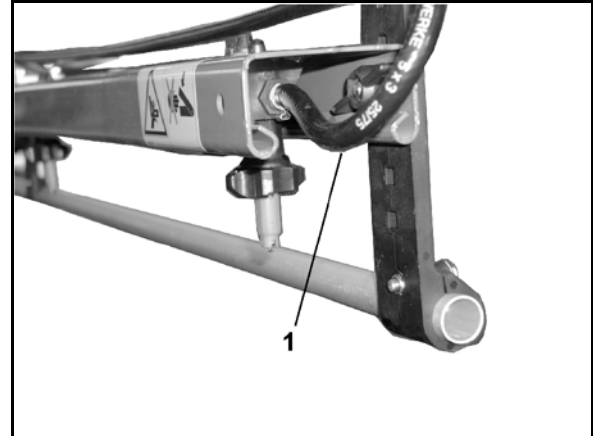

Fig. 122
- enables the constant circulation of liquid in the spray line. For these purposes, a suction port hose (Fig. 122/1) is assigned to each part width section.
- one suction port hose (Fig. 122/1) per part width section.